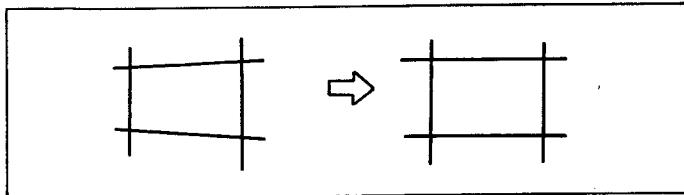

Fig. 25.
11) Adjust R745 to get straight horizontal lines from top to bottom as shown in Fig. 25.